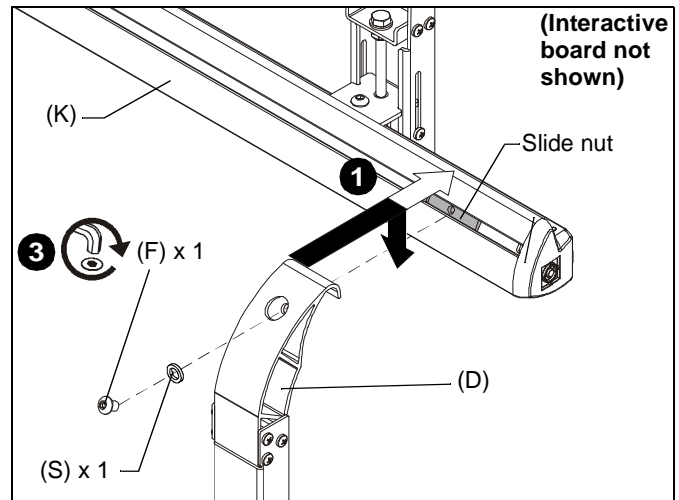

Figure 8
1. Hook whiteboard with attached uprights onto the wall assembly (K). (See Figure 8)
2. Move the slide nut so that it is aligned with the upright (D). (See Figure 8)
3. Fasten upright in place using one 1/4-20 x 3/8" button head cap screw (F) and one .4"x.255"x.0625" nylon spacer (S). (See Figure 8)